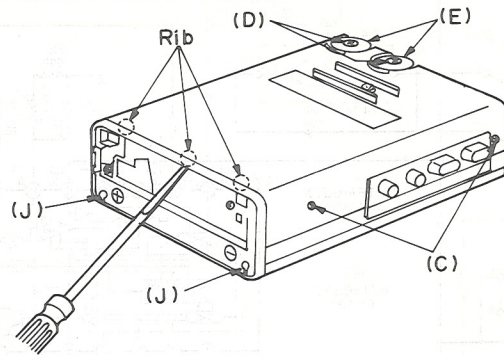

Fig. 2
3. Remove the screw (C) (1.4×2.5)mm×2. (Fig. 2)
4. Remove the screw (D) (1.4×4.5)mm×2. (Fig. 2)
5. Remove the knob (E)×2. (Fig. 2)
6. Remove the rib with ⊖ screwdriver. (Fig. 2)